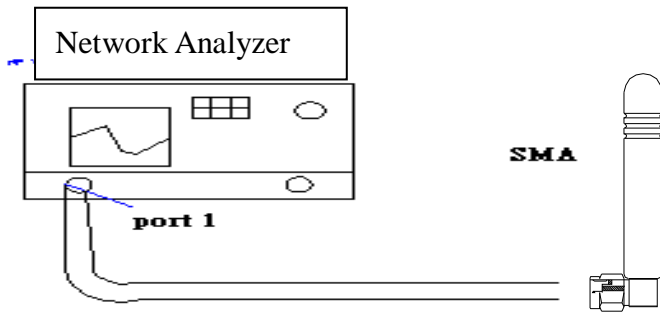

Fig.1
- (I) Calibrate the Network Analyzer by one port calibration using O.S.L calibration kits.
- (II) Connect the antenna under test to the Network Analyzer.
- (III) Measure the S11(reflection coefficient) shown in Fig. 1.
- (IV) Generally, the S11 is less than –10dB to ensure the 90% power into antenna and only less than 10% power back to system.